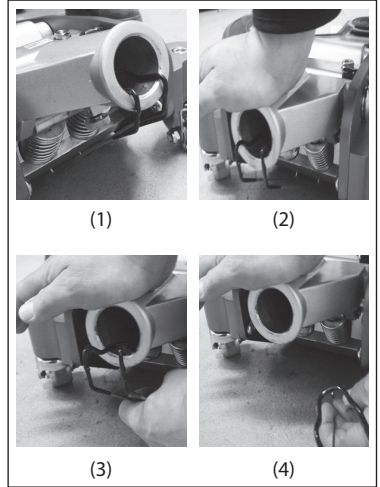

Fig. 02
- Remove the transportation lock on the lever support. (Fig.02). Push the lever support down (1/2) and remove the transport lock (3/4).